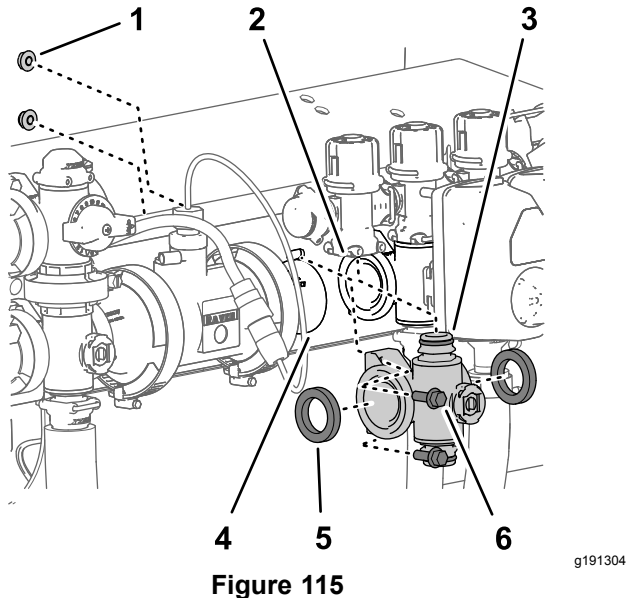
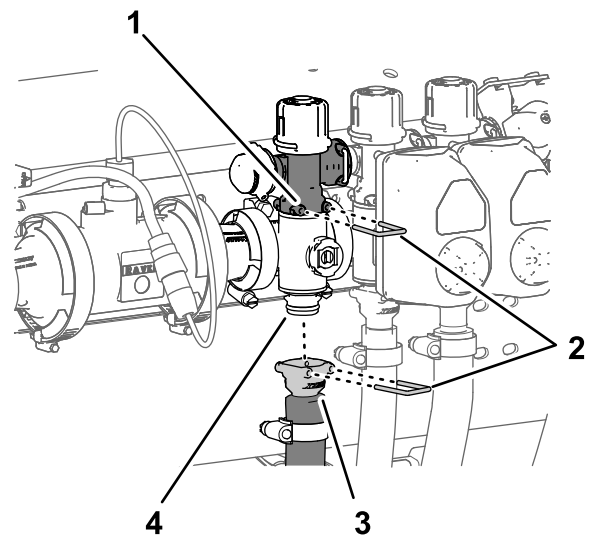

Figure 115
Figure 116
1. Align the 2 gaskets that you removed in Removing the Section-Manifold Valve \(page 79\) to the flanges of the section-valve manifold (Figure 115).
2. Align the flange of the section-valve manifold between the flanges of the other section-valve (s) and/or coupling adapter (Figure 115).
3. Assemble the quick-connect fitting of the section-valve manifold to the quick-disconnect socket of the section-bypass valve with a quick-connect pin (Figure 115 and Figure 116).
5. For left or right section-valve manifolds, assemble the section-valve manifold to the valve support (Figure 115) with the 2 flange-head bolts (1/4 x 3/4 inch) and 2 flange locknuts (1/4 inch) that you removed in Removing the Section-Manifold Valve \(page 79\).
8. Assemble the quick-connect coupler of the section hose onto the quick-connect fitting of the section-valve manifold with the quick-connect pin (Figure 116).